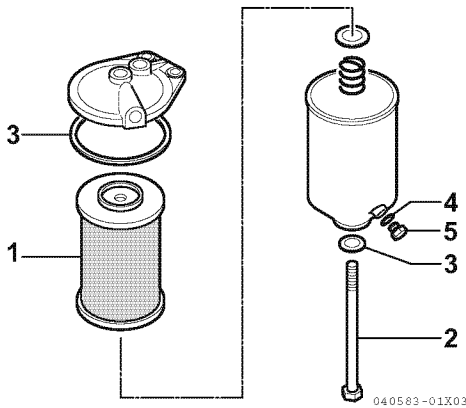

Figure 5
3. Remove the center bolt (**Figure 5, (2)**) at the bottom of the filter and take out the filter element (**Figure 5, (1)**).